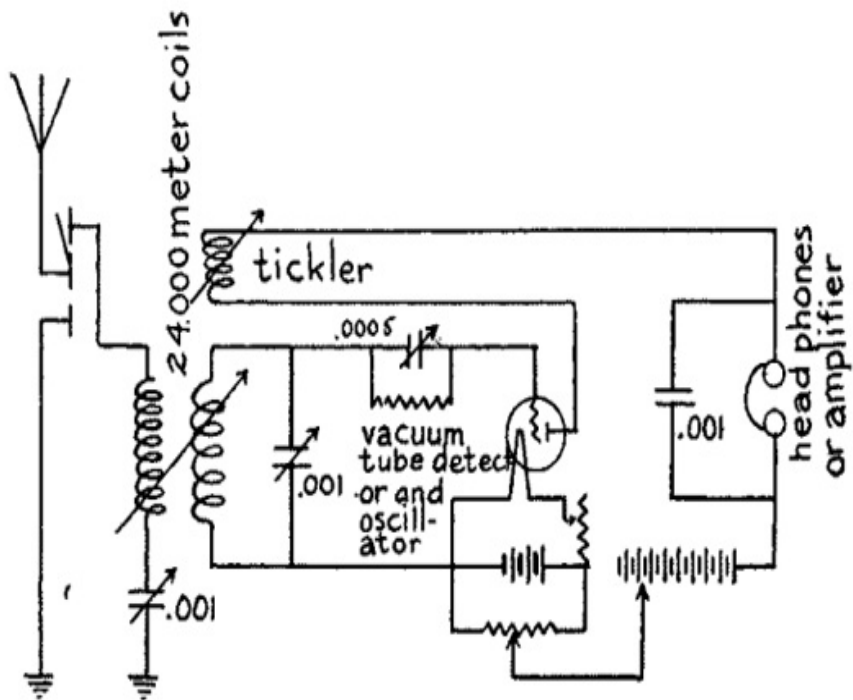

FIG. 60.—Wiring Diagram of Long Wave Antodyne, or Self-Heterodyne Receptor.
other good compact coils of the longest wave you want to receive, a table of which is given in Chapter XII; (2) two *.001 mfd. variable condensers*; (3) one *.0005 mfd. variable condenser*; (4) one *.5 to 2 megohm grid leak resistance*; (5) one *vacuum tube detector*; (6) one *A battery*; (7) one *rheostat*; (8) one *B battery*; (9) one *potentiometer*; (10) one *.001 mfd. fixed condenser* and (11) one pair of *headphones*. For the two-step amplifier you must, of course, have besides the above parts the amplifier tubes, variable condensers, batteries rheostats, potentiometers and fixed condensers as explained in Chapter IX. The connections for the autodyne, or self-heterodyne, receiving set are shown in *Fig. 60*.